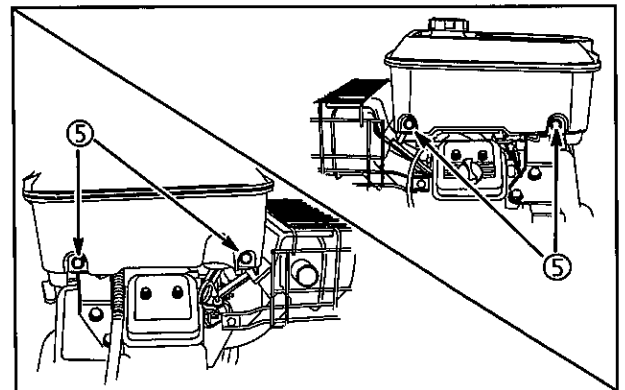

Fig. 9
4. Remove 2 shoulder bolts (5) from each side of the fuel tank, **Fig. 9**.